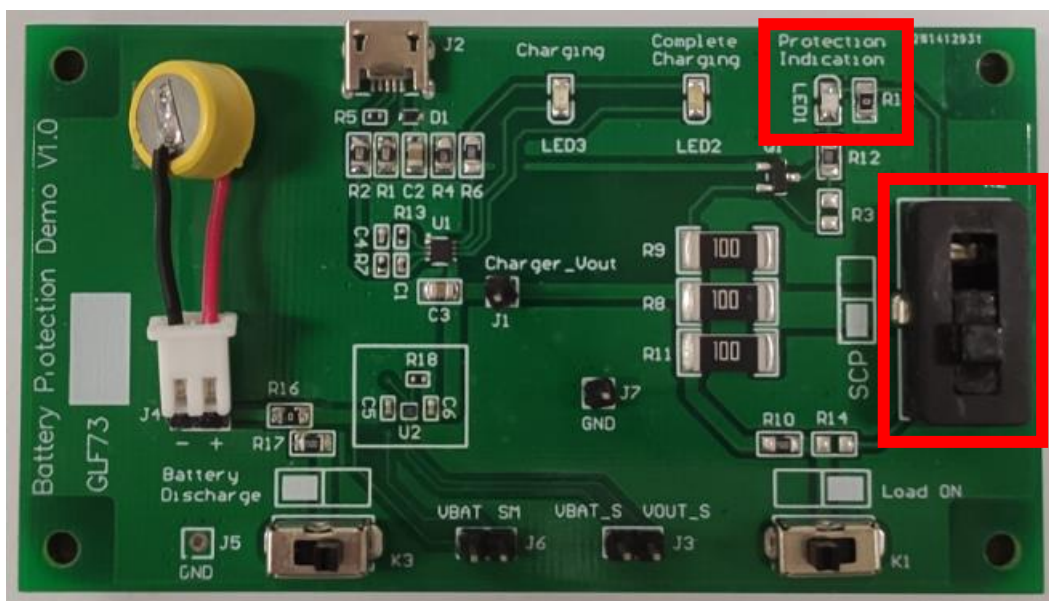

Fig 9. Trigger SCP
2. As shown in *Fig 9*, we switch K2 to the "SCP" side, the load short circuit protection of GLF73915 / GLF73910 is triggered, at this time GLF73915 / GLF73910 is turned off, and LED3 (Blue) is off. Note: After the demonstration of SCP, be sure to switch K2 to the opposite side of "SCP".